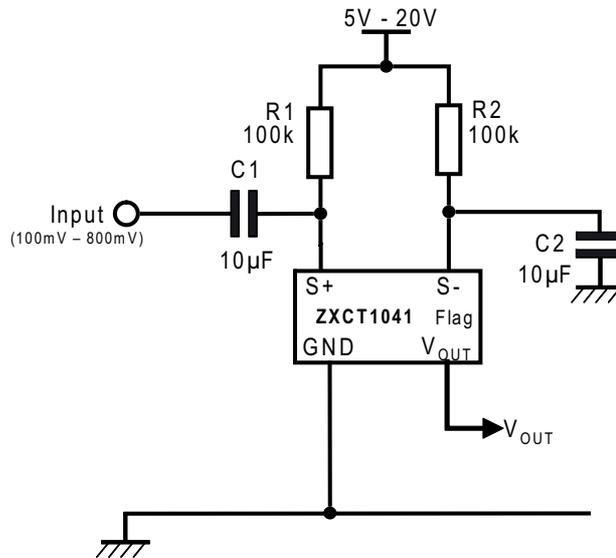

Figure 1 A very simple full wave precision recifier
It can be seen from Equation 4 above that the absolute values and ratios of resistors R1 to R4 are critical to satisfactory performance of this circuit. It also shows that there are two ways that the values could be arranged for precision rectification to take place. One of these, which is the one shown in Figure 1, is to make R1, R2 and R3 all same value (R), and then make R4 and R5 equal to 2R for unity gain. The other is to make R1, R3, R4 and R5 the same value (R), and then make R2 equal to  $2R^2$ . This also gives a unity gain. The effect of R5 in both cases is to apply an overall gain to the circuit and its absolute value is not important so long as the condition given by Equation 4 is satisfied. This will only be the case if very close tolerance resistors are used.